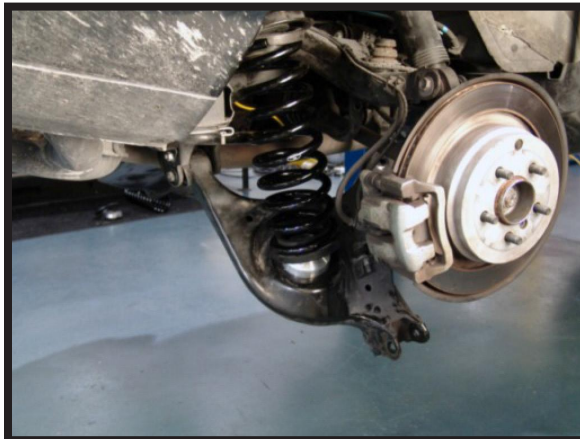

FIGURE 49
4. PLACE THE COIL SPRING ASSEMBLY INTO THE UPPER PERCH CENTERING THE UPPER SEAT. WHILE PRESSING DOWN ON THE CONTROL ARM, SLIDE THE BOTTOM OF THE SPRING OVER THE LOWER SEAT. (FIGURE 49)